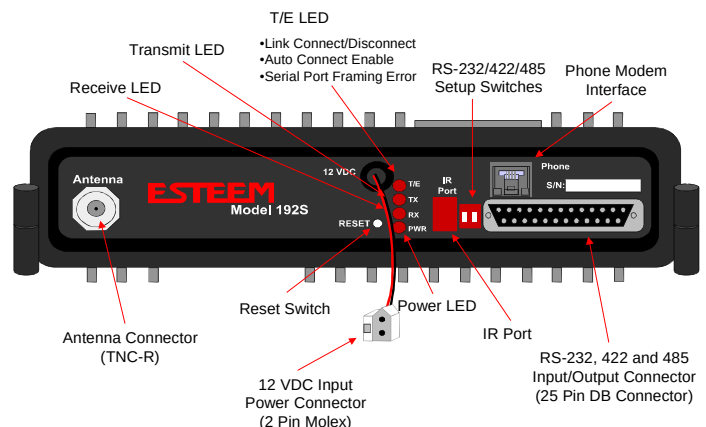

Figure 6: ESTeem Front Panel
window containing the ESTeem Model 192S front panel will appear (Figure 6). Press any one of the buttons for a complete description of the item's function. For example, press the Power LED button and the description of the power LED and its use will
10. Press Set Dip Switches button. This window will configure the ESTeem's RS-232/422/485 to operate at the setting selected in step 8. Turn both Switches 1 and 2 on the RS-232 setup switches (Figure 6) to the OFF/Down position and press the Reset Button on the ESTeem. Press Download Port Settings button to return to the Step 3 menu. Return Switch 1 on the RS-232/422/485 port setup switches to the ON position and press the reset button.
17. Press Test Communication button. This section will allow you to test the radio frequency (RF) communications between two or more ESTeems. Two types of tests are listed in this window (Figure 6). If you have a computer attached to both ESTeems proceed to step 18 and if you only have one computer to test both ESTeems proceed to step 19.